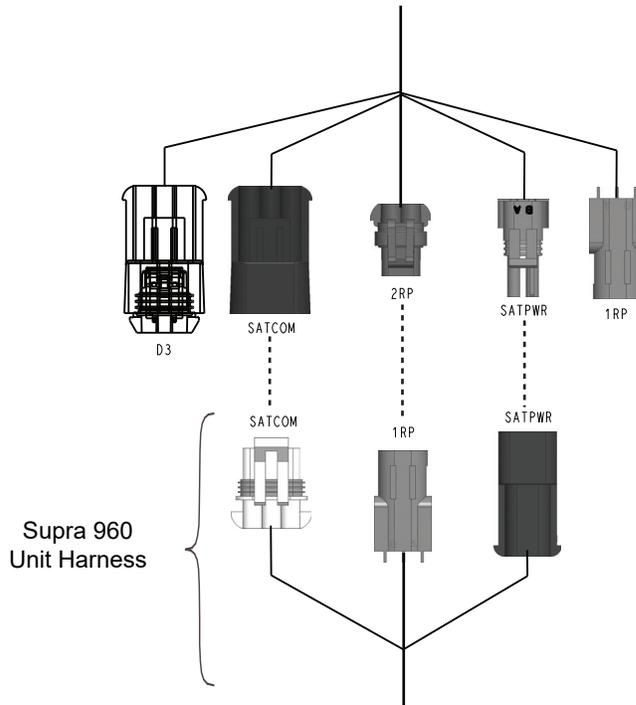

Figure 1.15 - Power and Communication for 960 Units after S/N TFP91605321
1. Connect the eSolutions module harness (22-03130-00) to the mating unit engine harness connectors and all applicable options (fuel sensor, door switch, power control switch, etc.). See Figure 1.15.